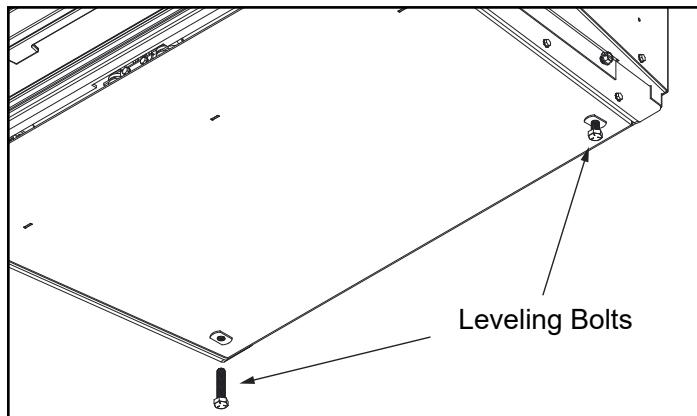

Figure 22.4
1. If needed install and adjust leg levelers as needed. **Figure 22.4.**